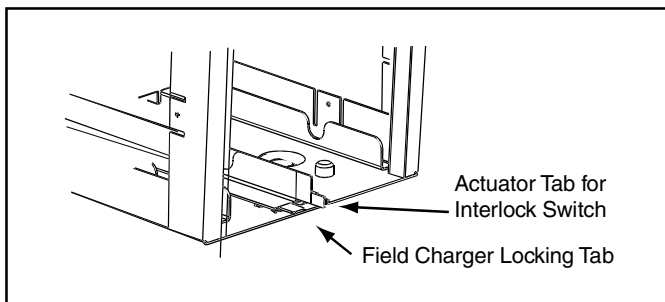

Figure 18 Locking Tab
- Reinstall the FIELD CHARGER and lock into place by bending one locking tab on the cabinet. See Figure 18.
9. Reinstall the FIELD CHARGER and lock into place by bending one locking tab on the cabinet. See Figure 18.
11. Reinstall the FIELD CHARGER and lock into place by bending one locking tab on the cabinet. See Figure 18.